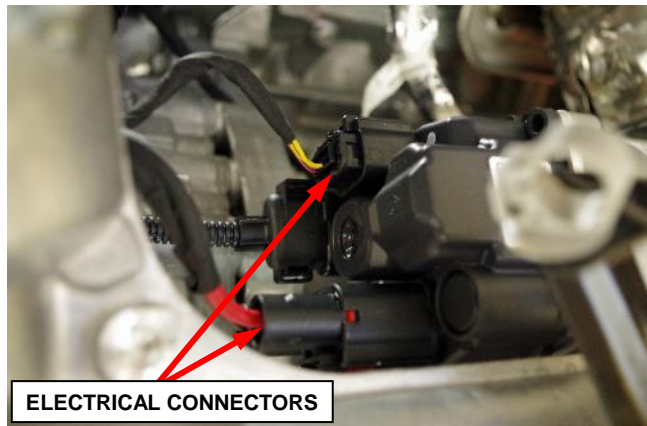

Figure 86 – Electrical Connectors
64. **FWD only:** Disconnect the two vehicle wire harness electrical connectors from the steering gear (Figure 86).
5. **FWD only:** Connect the two vehicle wire harness electrical connectors to the steering gear (Figure 86).